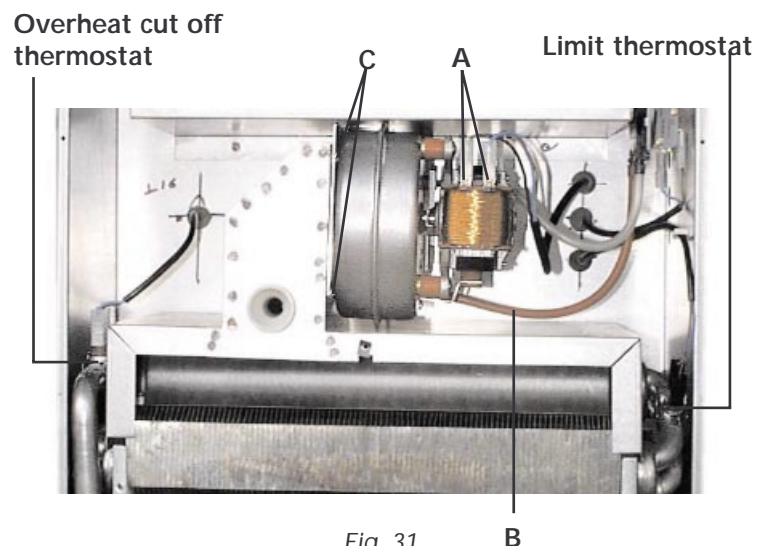

Fig. 31
## 7.12 Removal of fan (fig. 31)
## 7.13 Limit thermostat, or overhear cut off thermostat (fig. 31)
- Identify the location of thermostat from fig. 31